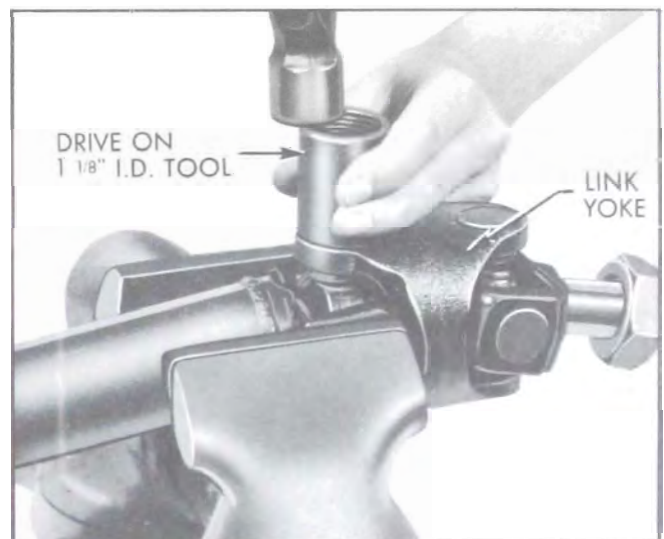

Figure 6-39—Driving Universal Joint Bearing from Link Yoke
3. Using a pipe coupling or a similar tool having an inside diameter of about 1 1/8 inches, apply force on link yoke around bearing. See Figure 6-39. Drive link yoke downward until about 1/4 inch of bearing projects from yoke. CAUTION: Do not attempt to drive yoke down farther than ball and socket will allow easily. Extreme force will result in damage to the ball-socket assembly.